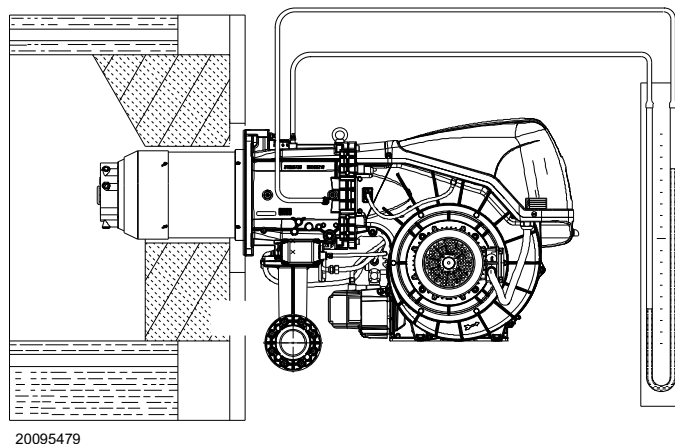

Fig. 31
- Fit a U-type pressure gauge or a differential pressure gauge (Fig. 31), with socket (+) on the gas pressure of the pipe coupling and (-) in the combustion chamber. The manometer readings are used to calculate MAX burner output using the Tab. N.
The arrival of gas at the sleeve is indicated by the U-type manometer (Fig. 31).